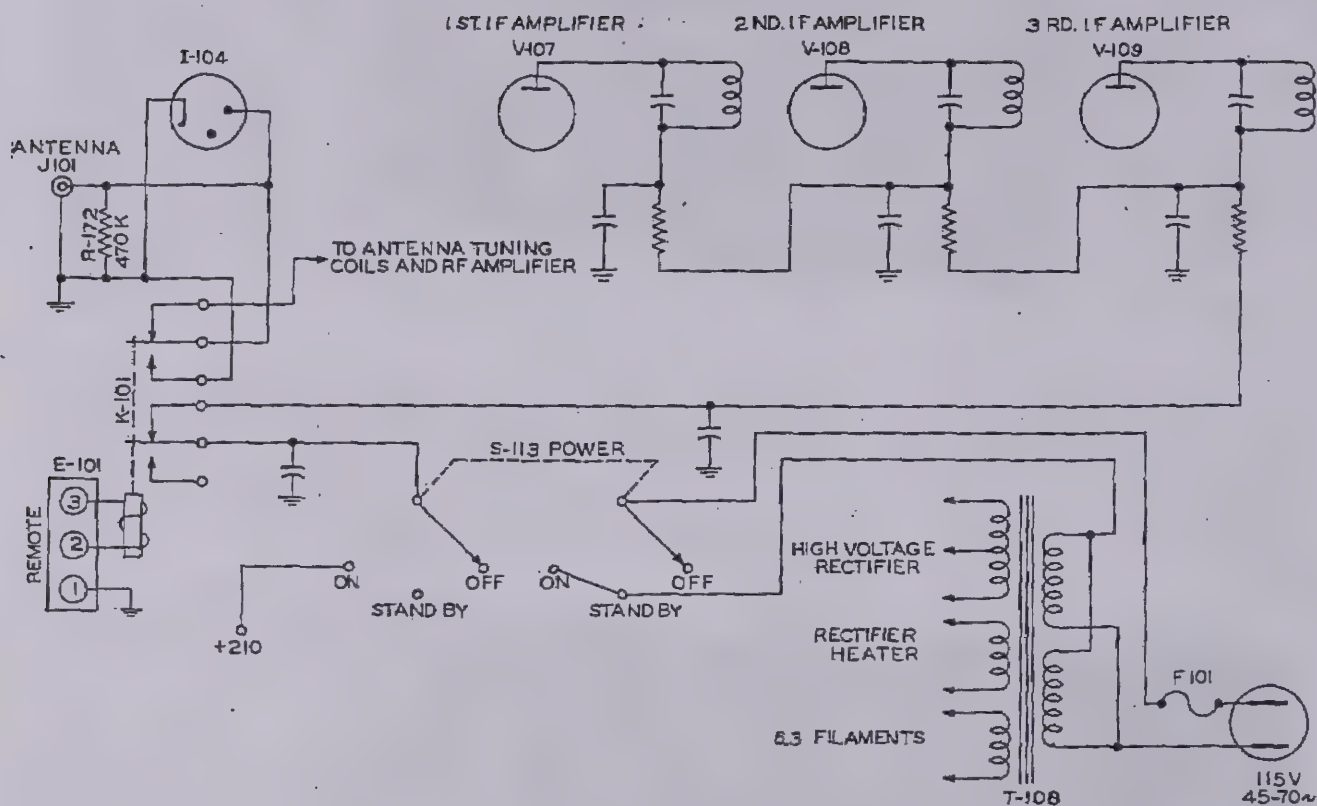

Figure 2-3. 51J-3 On-Off-Standby Functions and Remote Operation Relay Circuit
2.2.5. REMOTE STANDBY CONNECTIONS. - Break-in relay connections are available at terminal strip E101 at the rear of the chassis. Terminals are marked 1, 2 and 3. Terminal 1 is connected to receiver ground. Terminals 2 and 3 are connected to the break-in relay coil, which is rated at 8.5 d-c volts minimum and 135 ohms d-c resistance. During operation, terminals 2 and 3 are usually connected in series with a source of voltage and a set of normally open contacts on the carrier control relay of a transmitter in order to silence the receiver during transmission. When the break-in relay coil is energized, one pair of contacts shorts the antenna to ground; another pair, connected in series with a section of the OFF-STANDBY-ON switch, removes plate voltage from the three i-f amplifier stages. In STANDBY position, the OFF-STANDBY-ON switch also removes plate voltage from the i-f stages. See figure 2-3.